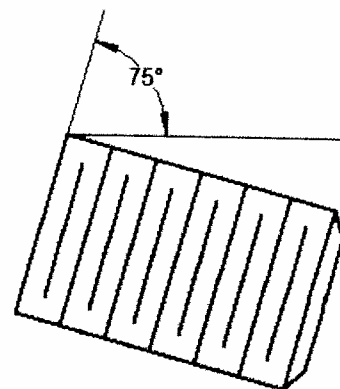

Figure 6-12b
- The block will be inserted at the specified insertion point and rotated at the specified angle, Figure 6-12b.
- Repeat the process with the following changes: (i) in the *Scale* panel, do not check the *Specify On-Screen* box and keep the default scale; (ii) in the *Rotation* panel, do not check the *Specify On-Screen* box and type 75 in the *Angle* field, Figure 6-12b.